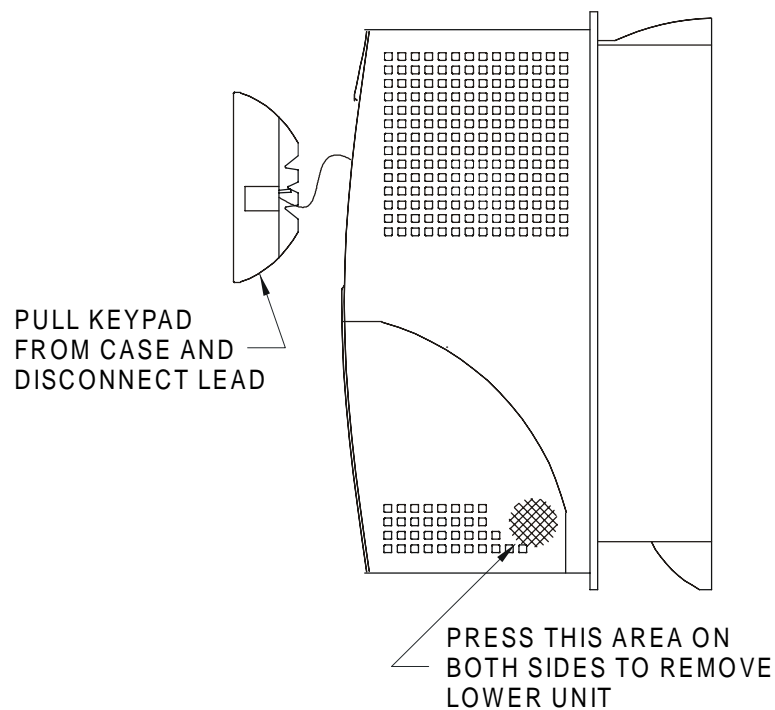

Figure 8.1 – Installing GEN250
- a. Press the area on both sides of the drive to remove the lower cover as shown in Fig. 8.1.
- b. Remove the control panel from the drive by pulling up *gently* and tilting the control panel. Do not use force to pull up the control panel. Then, disconnect the telephone cable connection located beneath the control panel at the panel end. (See Figure 8.1.)
4. Remove cover of the drive. (Refer to Figure 8.1.)